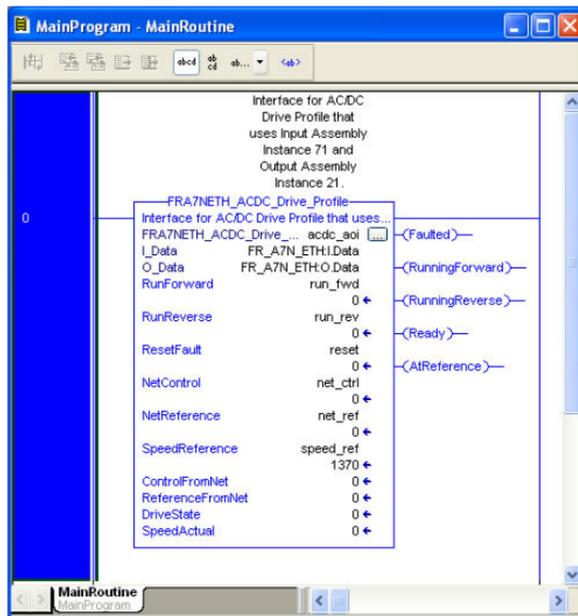

Figure 91: Configure AC/DC Drive Profile AOI
- 10) Edit the add-on instruction according to Figure 91.